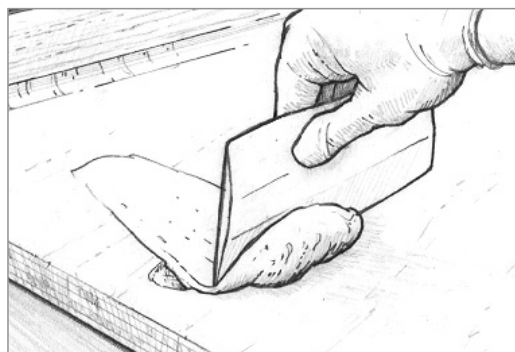

Figure 6-9 Trowel the thickened epoxy fairing compound into the voids and depressions with a plastic spreader.
4. Trowel on the thickened epoxy mixture with a plastic spreader, working it into all voids and depressions. Smooth the mixture to the desired shape, leaving the mixture slightly higher than the surrounding area (*Figure 6-9*). Remove any excess thickened epoxy before it cures. If the voids you are filling are over ½" deep, apply the mixture in several applications or use 206 Slow Hardener or 209 Extra Slow Hardener, depending on ambient temperature.